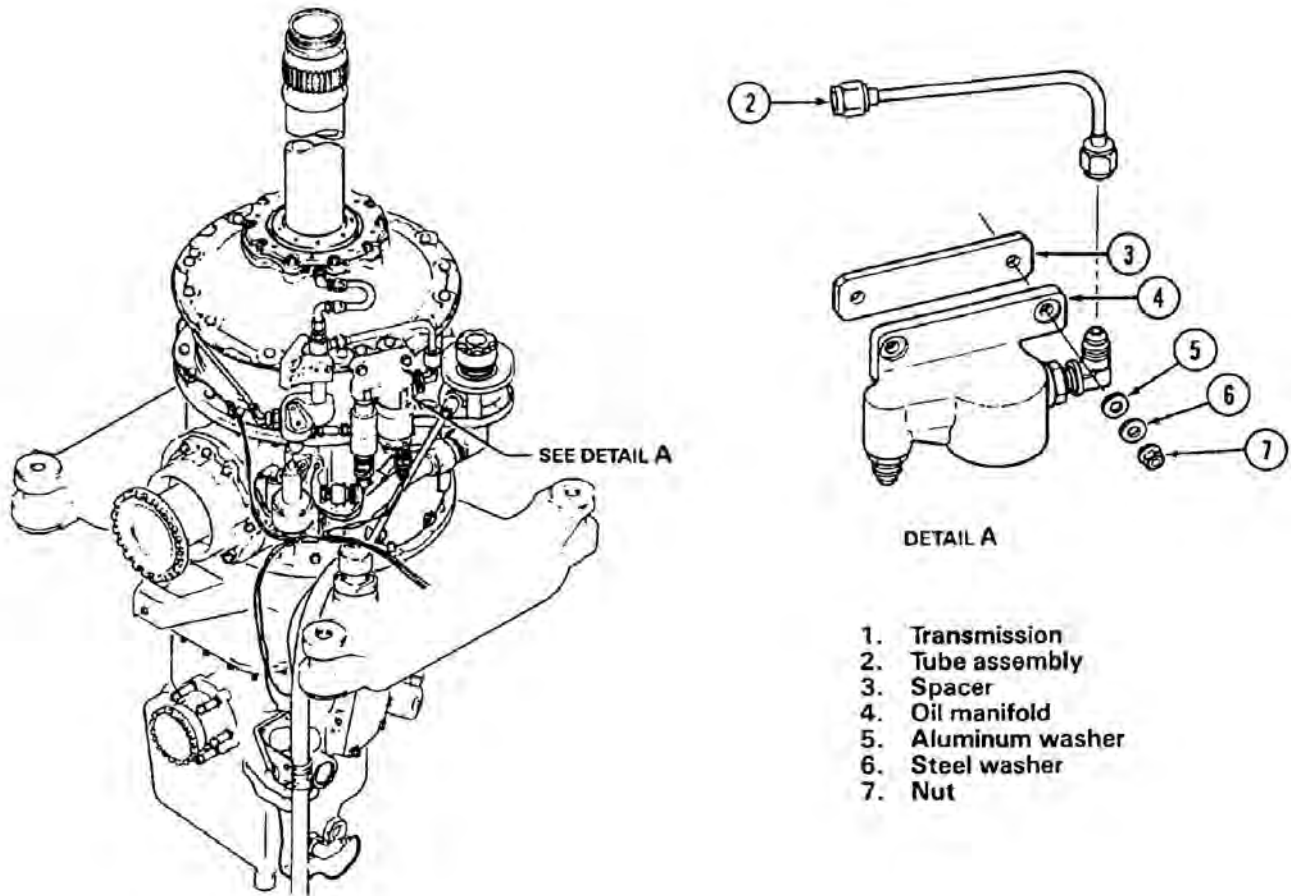

Figure 63-39. Oil Pressure Manifold
63.5.22.1.3 Remove tube (2, Figure 63-39).
Inspect manifold (4, Figure 63-39) for damaged threads and for mechanical or corrosion damage. Damage in excess of superficial is unacceptable. Corrosion damage shall be removed.
Repair of manifold (4, Figure 63-39) is limited to removal of superficial corrosion from areas exposed on exterior of transmission.
63.5.22.5.1 Position spacer (3, Figure 63-39) and manifold (4) on transmission.